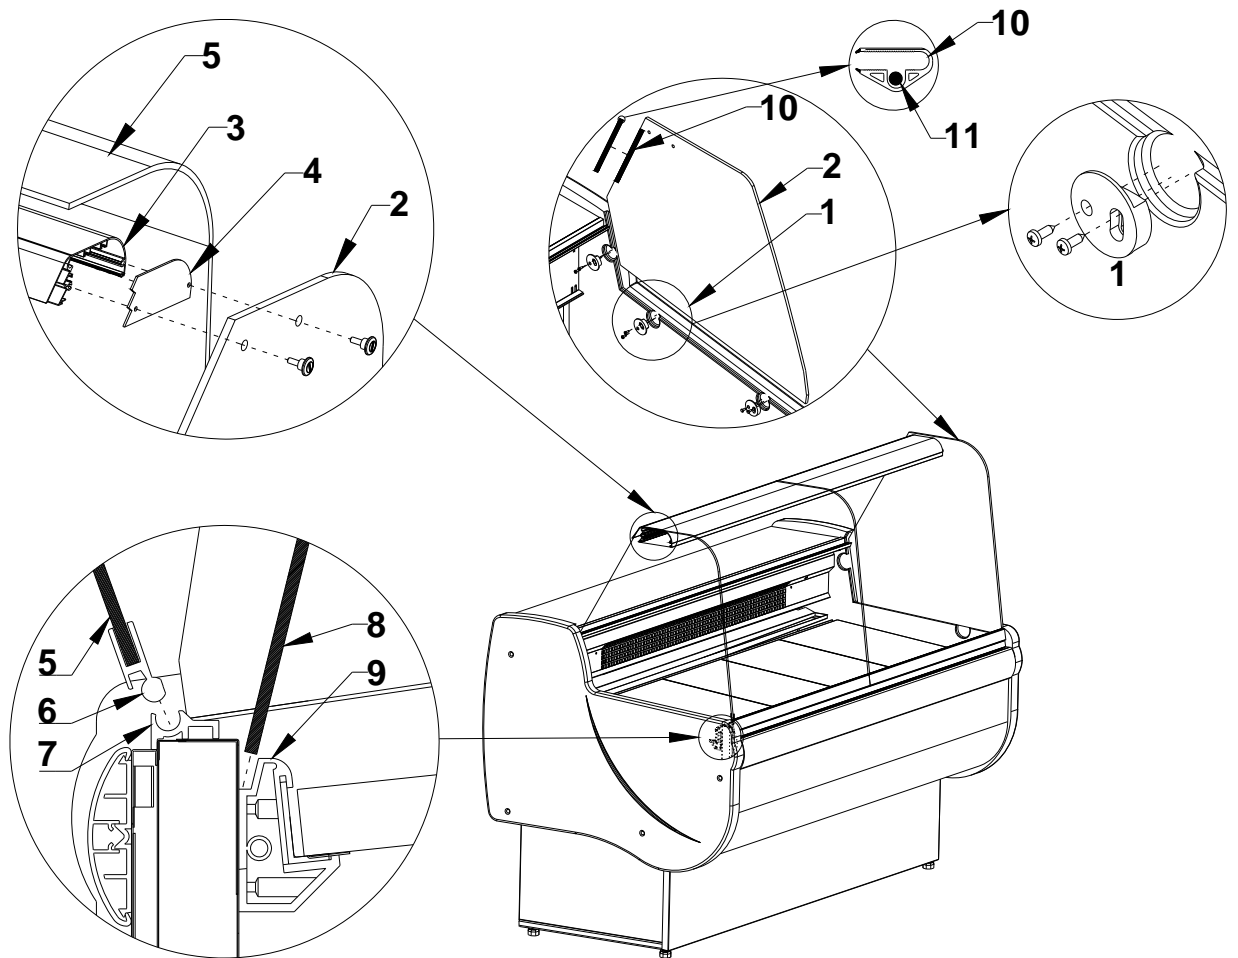

Fig.4 Assembly of glass elements and aluminium lamp
2. Mount glass sides *Fig.4/2;1 (p.8)*
3. Mount the aluminium lamp (together with lighting) on glass sides *Fig.4/3 (p. 8)*
4. Mount the casing of lamp conduit *Fig.4/ 10 (p.8)*
5. Mount front screen *Fig.4/ 8 (p.8)*
6. Mount front glasses of the display cabinet *Fig.4/ 5 (p.8)*